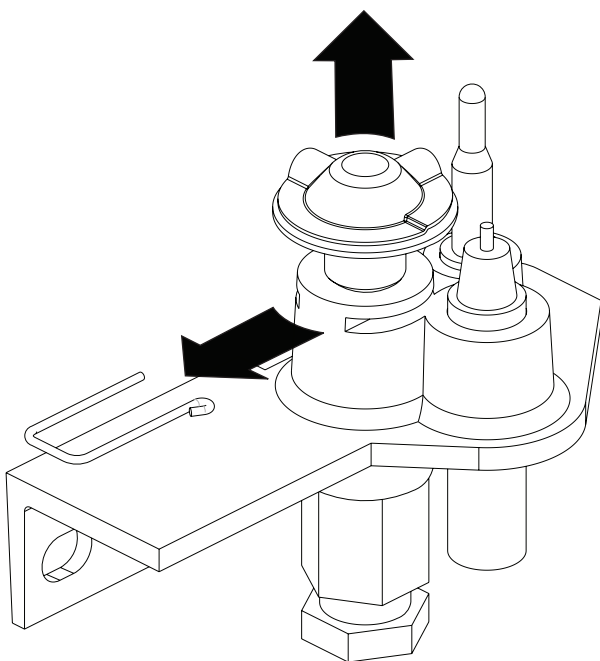

Figure 6
2. The pilot hood is retained by a spring clip. Remove the spring clip and pull upwards on the hood to remove it. The brass pilot orifice will be revealed. Use a 4mm hex key to turn the pilot orifice clockwise until it bottoms out. **See Figures 6 and 7.** Replace the pilot hood and spring clip.